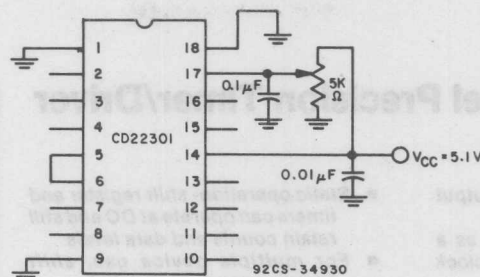

Fig. 4 - Test circuit for impedance measurement.
In operation, a serial string of 16 (17 using the optional flip-flop) bits is fed into the shift register (see Fig. 4 for shift register timing). Ones ("1s") determine an output drive pulse and zeros ("0s") indicate no drive. Any one output enable (EP) line is connected to four selected timers giving the potential for four outputs per one EP pulse with the exception that EP5 connects one timer only. EP lines may be connected to each other.